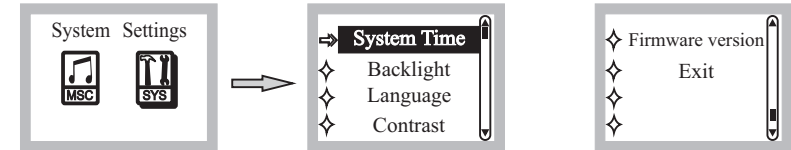

Fig. 18
- (2) System Settings Mode: Press PRV/TEN or the NEXT/TEN to change functions, press PLAY/PAUSE to confirm and enter system settings, Fig. 18.